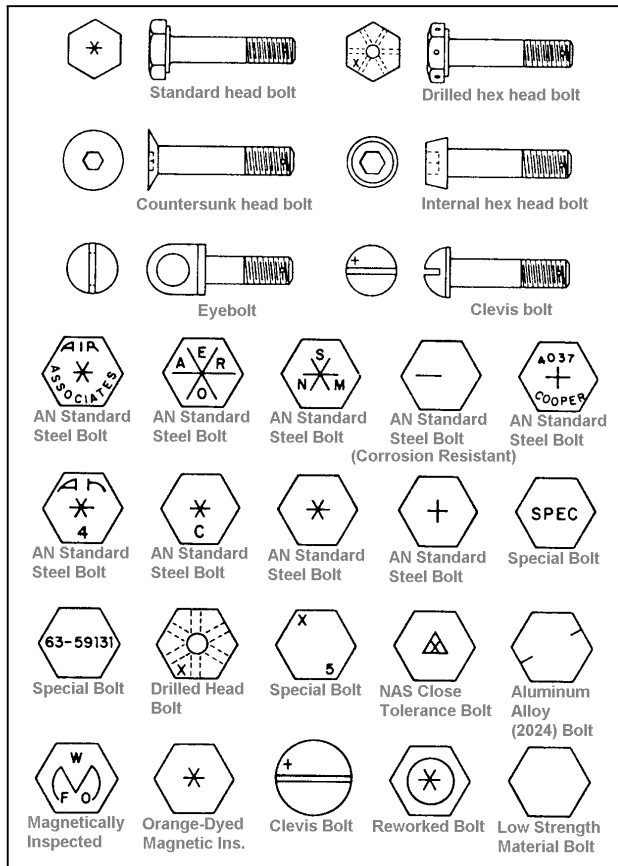

FIGURE 7-1. Typical aircraft bolt markings.
**b. Special-purpose bolts** include high-strength, low-strength, and close-tolerance types. These bolts are normally inspected by magnetic particle inspection methods. Typical markings include “SPEC” (usually heat-treated for strength and durability), and an aircraft manufacturer’s part number stamped on the head. Bolts with no markings are low strength. Close-tolerance NAS bolts are marked with either a raised or recessed triangle. The material markings for NAS bolts are the same as for AN bolts, except they may be either raised or recessed. Bolts requiring non-destructive inspection (NDI) by magnetic particle inspection are identified by means of colored lacquer, or head markings of a distinctive type. (See figure 7-1.)